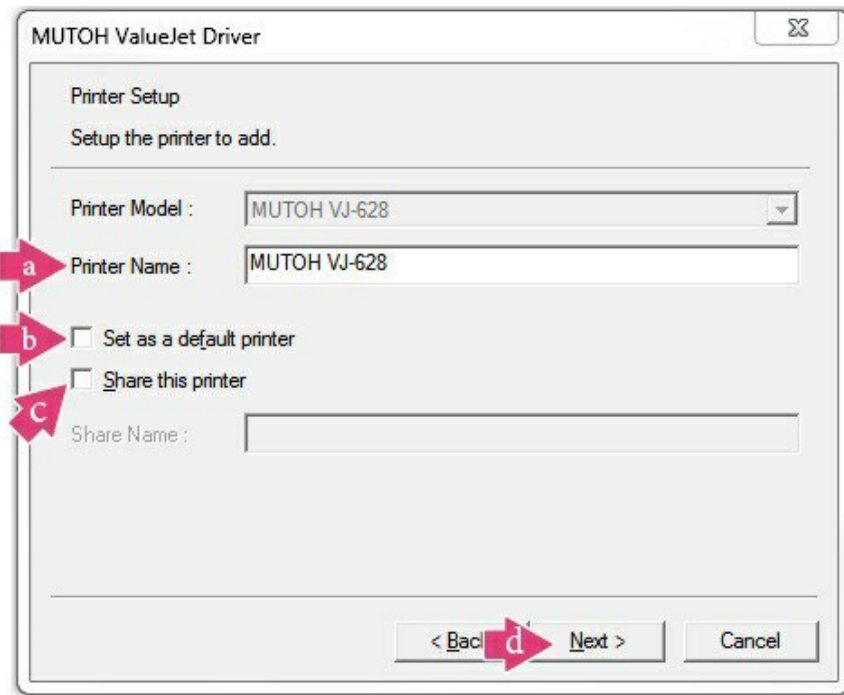

Figure 33
20. These are personal preferences that you may choose, should you wish to. See a brief description of the functions below. See Figure 33.